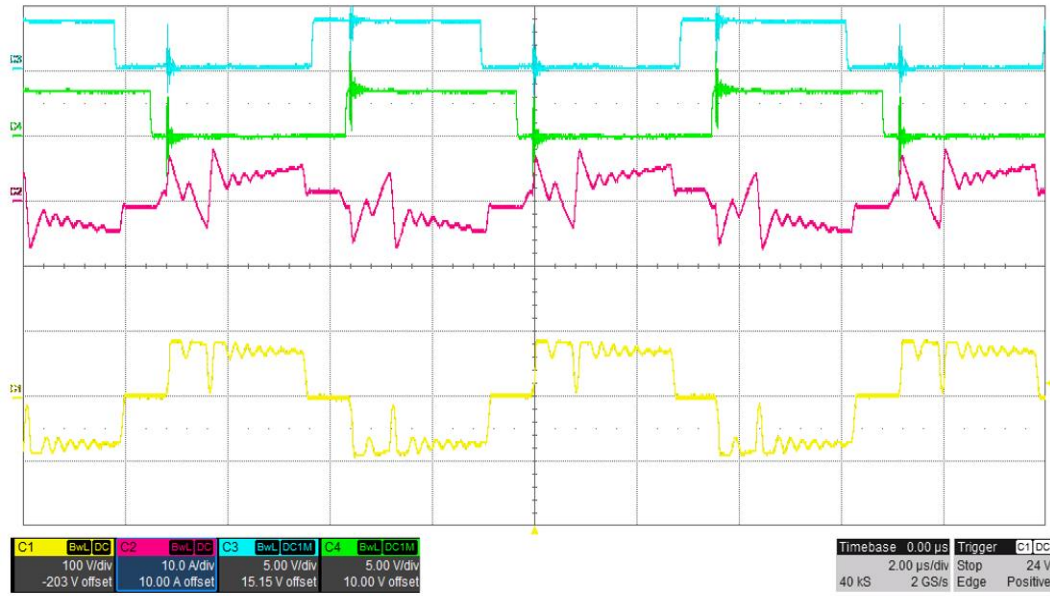
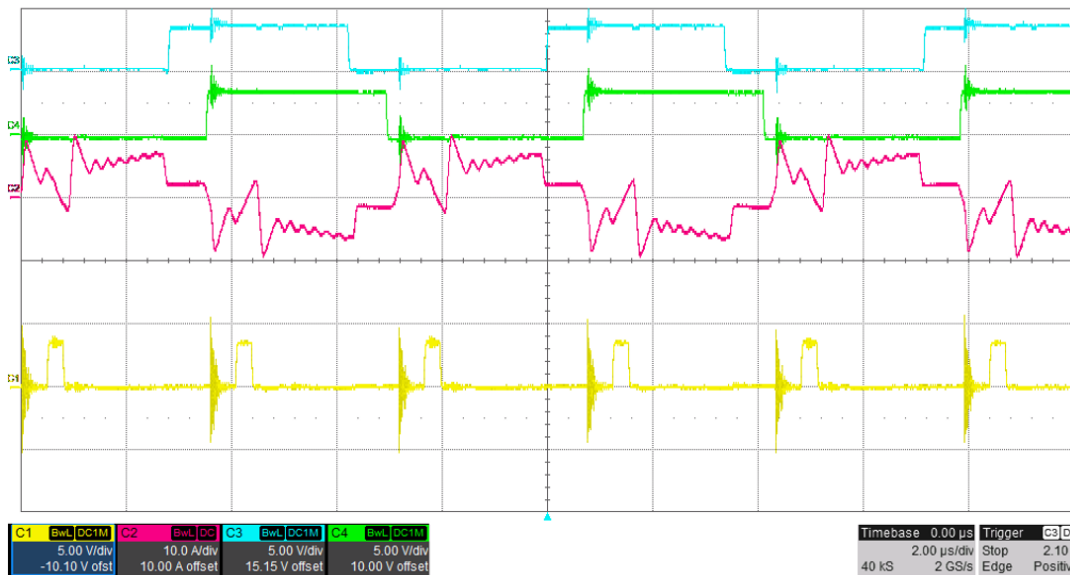

Figure 18 – C1 Vsec, C2 Ipri, C3 leg2\_Is PWM, C4 leg1\_hs PWM, SR Mode 1
Figure 19 – C1 ACL PWM, C2 Ipri, C3 leg2\_Is PWM, C4 leg1\_hs PWM, SR Mode 1
11. Increase the load current to 15A and use an oscilloscope to verify the transformer primary current, transformer secondary voltage and PWM gate drive signals for the primary bridge and the secondary SR bridge. Appropriate safety precautions should be taken while probing any high voltages and high currents for this isolated DC-DC converter. The scope capture below in Figure 18 shows the transformer secondary voltage, primary current and the primary bridge PWM waveforms for the diagonal pair PWM1A and PWM2B. with 390Vin, 54Vout, 15A Load and SR Mode 1. Figure 19 shows the same except that C1 shows the ACL PWM instead of Vsec
17. As discussed before, for this PCMC PSFB DC/DC, transformer peak primary current sensed signal is used to implement cycle-by-cycle PCMC. The same current sensed signal is also used to detect any overcurrent condition and the subsequent activation of over current protection function. Under any OC condition C2000 internal comparator generates an internal trip zone (TZ) signal which is used to directly shut off all the necessary PWM signals, all implemented internally using C2000 MCU on-chip h/w. The configuration code for all these are done during initialization using the protection function called *PSFB\_HAL\_setupBoardProtection()*. Again, this protection function is executed during initialization from the main function called *main()* which resides inside the file *psfdpcmc\_main.c*.
19. The active clamp (ACL) PWM for this Lab 2 is also set to constant 280kHz PWM frequency with an effective pulse of 300nS. This is explained in Lab 1 and a code snippet is also presented in that section. Verify that the ACL PWM has an on-time of 300nS and a rising edge delay of 700nS as explained before. Appropriate safety precautions should be taken while probing any high voltages and high currents for this isolated DC-DC converter. The scope capture presented in Figure 19 before shows the primary bridge PWM waveforms for the diagonal pair PWM1A and PWM2B, transformer primary current and ACL PWM under SR mode 1 with 390Vin, 54Vout, 15A load.